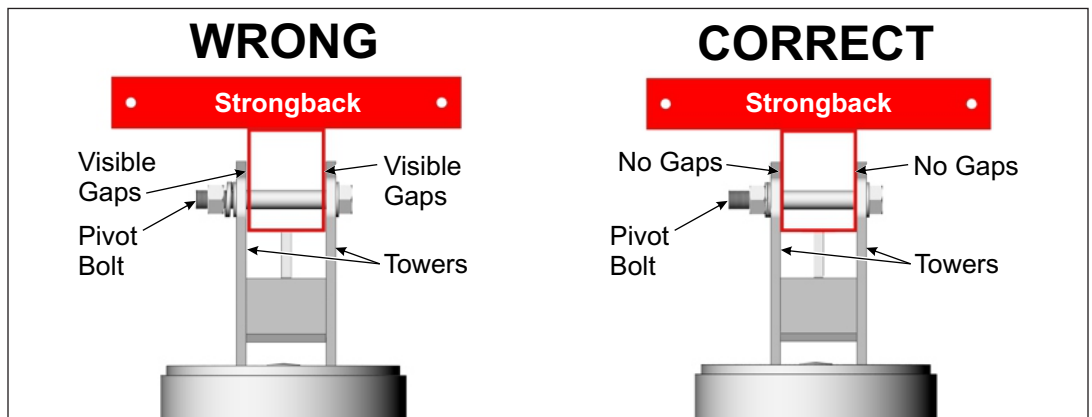

Figure 6-3: Tighten and Torque the Pivot Bolt
- C. After changing the tilt angle and tightening the Support Bar hardware, the Pivot Bolt must be re-tightened. The Pivot Bolt cannot be left loose - the Mounting Sleeve Vertical Towers must be firmly clamped to the sides of the Strongback eliminating any gaps between the Vertical Towers and the Strongback. **Torque to 75-85 ft.-lbs.** (See Figure 6-3)